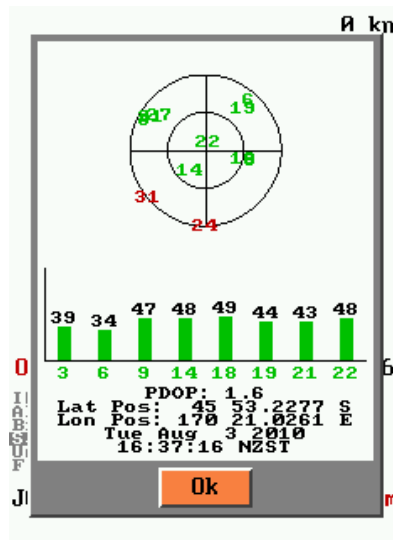

Figure 4.7: The GPS satellite map
**Satellites** displays the last known location and signal strength for visible GPS satellites in a diagram similar to that shown in Figure 4.7. The crosshair at the top shows the positions of each satellite (the centre of the crosshair is directly overhead, while the edge of the circle represents the horizon). The bar graph at the bottom shows signal strengths.